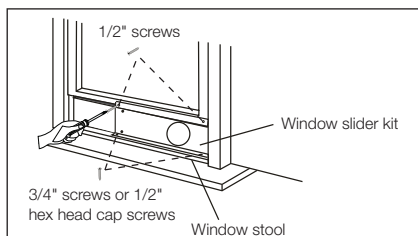

Fig. 15
3. Close the window sash securely against the window slider kit. (Fig. 15)
4. Drive two 1/2" screws to secure the window slider kit to the window sash. (Fig. 15)
5. Secure the window slider kit to the window stool (Fig. 15):